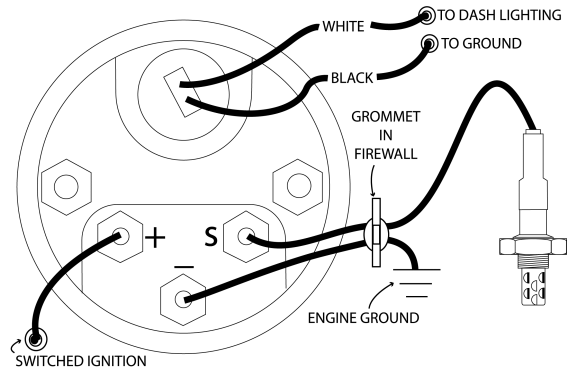
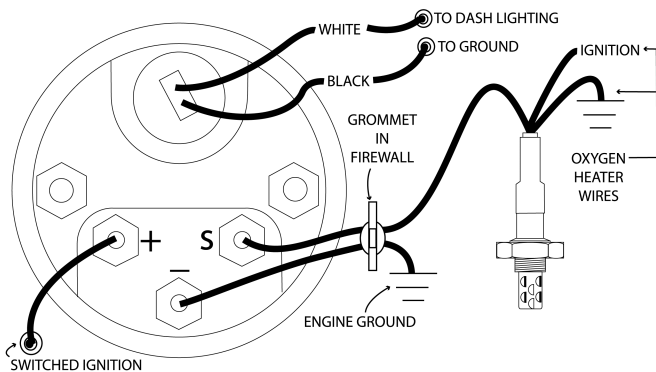

Figure 3
Figure 4
OXYGEN SENSOR INFORMATION (Figure 3 & 4):
- ❑ The unheated sensor has 1 or possibly 2 wires (figure 3).
- ❑ The 1-wire sensor has only the signal wire, which goes to the (S) terminal on the gauge.
- ❑ The heated sensor generally has 3 or 4 wires (figure 4).
- ❑ On a 3-wire sensor there are generally 2 wires (the same color) for the heater. Connect one wire to ground and the other to a switched 12V source. The third wire is the signal wire, which goes to the (S) terminal on the gauge.